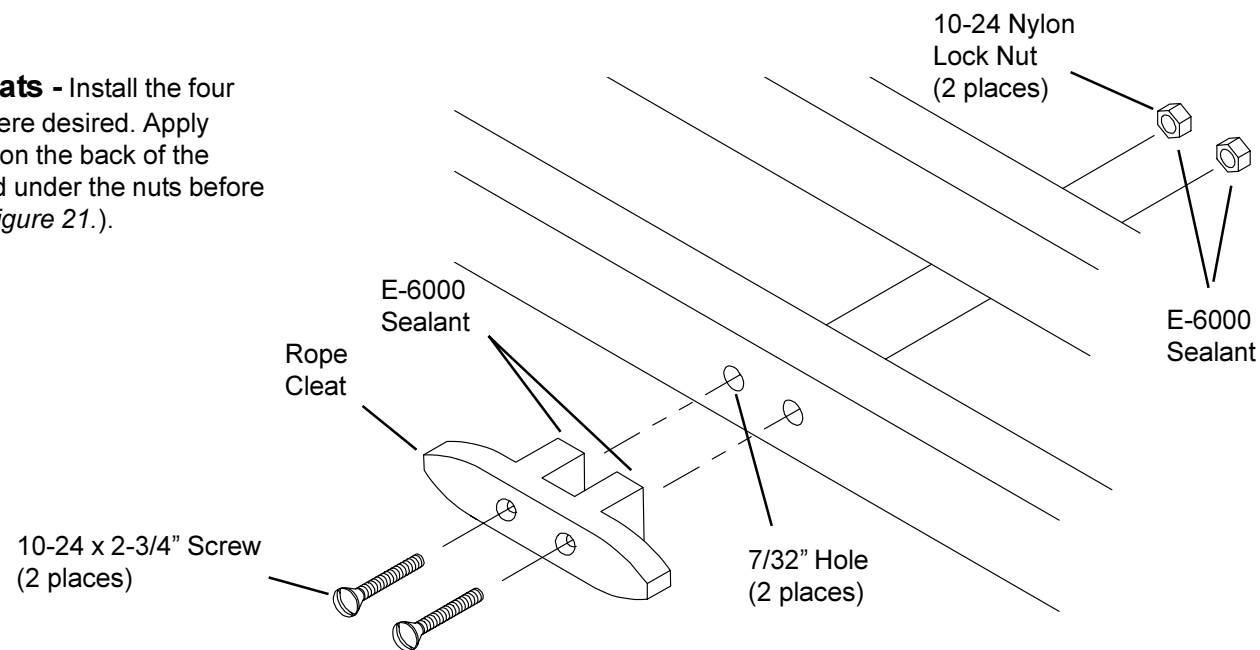

Figure 21. Rope Cleats - Illustration shows only one Rope Cleat - repeat this for the remaining three Rope Cleats
11. Rope Cleats - Install the four Rope Cleats where desired. Apply E-6000 Sealant on the back of the Rope Cleats and under the nuts before installing (see Figure 21.).